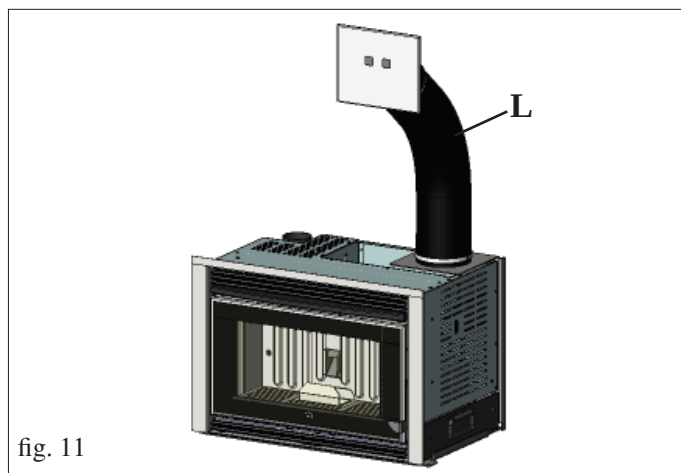

fig. 11
- For the installation of the loading mouth (L – Fig. 11), see the pages that follow.